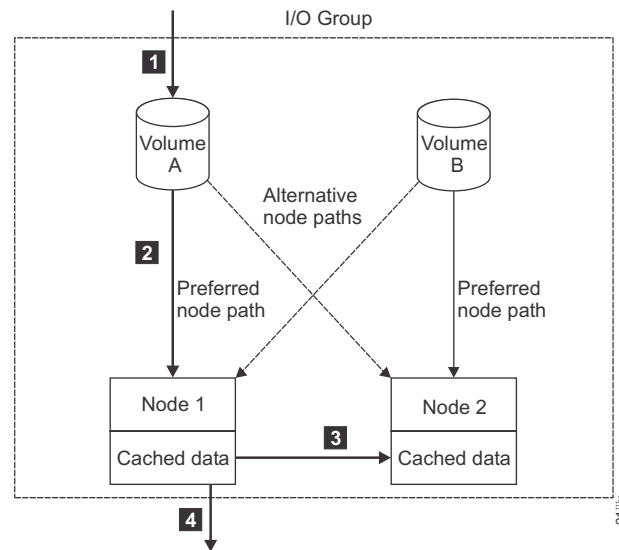

Figure 8. I/O group
Figure 8 shows a write operation from a host (1), that is targeted for volume A. This write is targeted at the preferred node, Node 1 (2). The write operation is cached and a copy of the data is made in the partner node, the cache for Node 2 (3). The host views the write as complete. At some later time, the data is written, or de-staged, to storage (4).